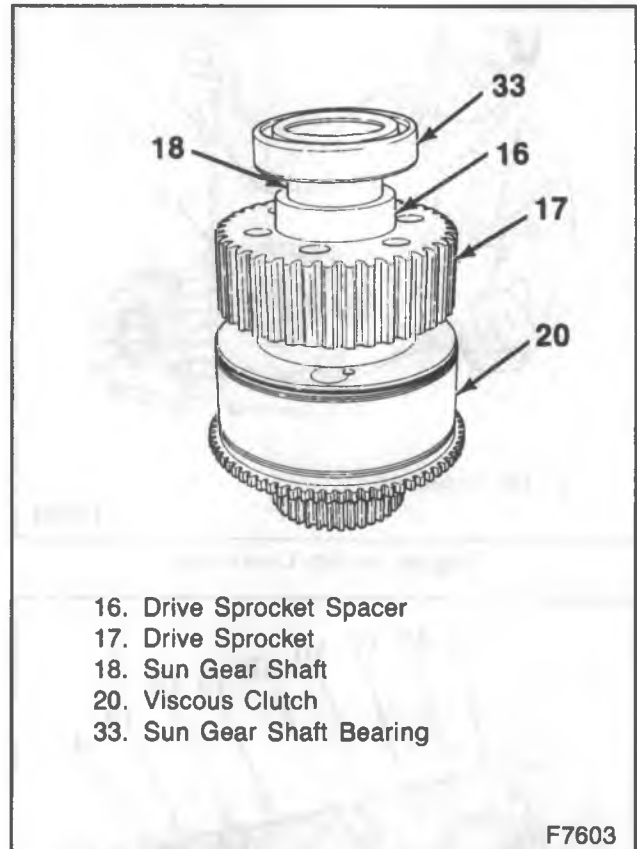

Figure 11—Installing the sun Gear Shaft Components
1. Viscous clutch (20), drive sprocket (17), drive sprocket spacer (16), and the sun gear shaft bearing (33) onto the sun gear shaft (18) (Figure 11).